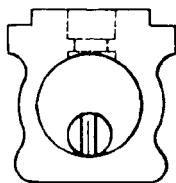

Figure 2a
1. With the valve swung to the out-of-line position, insert from the inside of the body a stem bearing (8), a secondary seal (13), then another stem bearing (8) into the stem bore.
2. Insert the stem (4) horizontally into the body bore (threaded end first). The blade at the ball end of the stem must be vertical (see Figure 2A and B). Guide the stem into the stem hole being careful not to scratch the bearings.
3. Holding the stem in place from the bottom, install the top stem seal (7), a compression ring (18), indicator stop (12), Shakeproof® washer (9), and thread on stem nut (16) until the stem starts to turn.
5. Align the stem blade with the ball slot. Insert the ball (3) and rotate the stem (4) to the ball closed position.